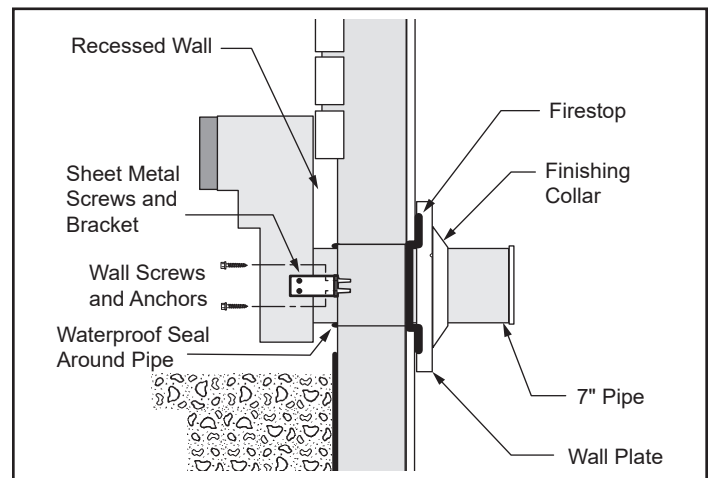

Figure 3.15 - Use extension brackets to mount snorkel against recessed wall.
- If the foundation is recessed, use extension brackets (not supplied) to fasten the lower portion of the snorkel. Fasten the brackets to the wall first, and then fasten to the snorkel with self-tapping #8 x 1/2" sheet metal screws. Extend the vent pipes out as far as the protruding wall face, Figure 3.15.